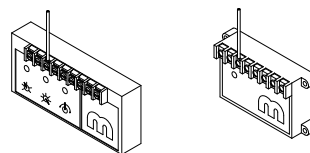

Figure 1
2. For EDL, EDR, EDSM, and EDSM/TP control systems, remove the wire from terminal #3 on the amplifier (see Figure 1). This will drive the modulating valve to full open.